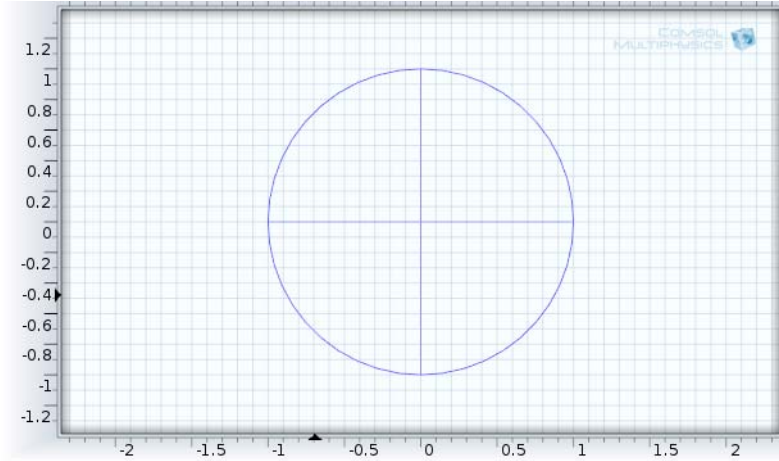

Figure 5-2: The Graphics window displaying the Work Plane Geometry without the Draw on work plane in 3D check box selected.
- 3 On the **Work Plane** settings window under **Work Plane>3D projection**, select the **Draw on work plane in 3D** check box. See Figure 5-2 and Figure 5-3 to see what happens when the check box is selected.